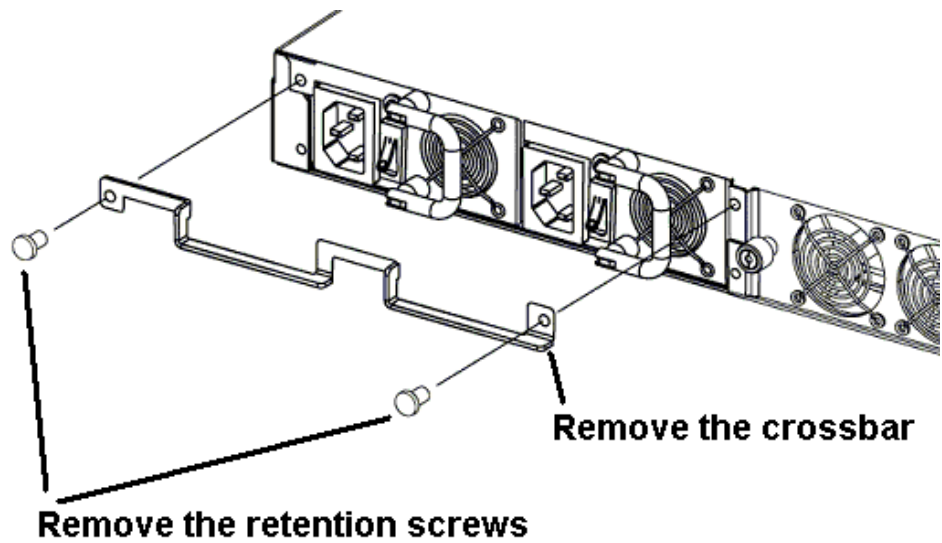

Figure 5-2: Remove the crossbar
**Step 2. Remove the crossbar** - Both PSUs are secured to an internal rack with a customized crossbar that is threaded through the rear handles of the PSUs. The crossbar is attached to the internal rack with two screws, one on either side. Remove these screws. Once the screws have been taken out, gently slide the crossbar out of the handles of the PSU. See *Figure 5-2*.